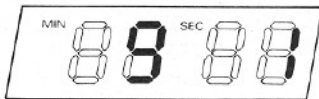

Fig. 3
Step 1 Press **PROGRAM** button to prepare for storing, as shown in Fig. 3.